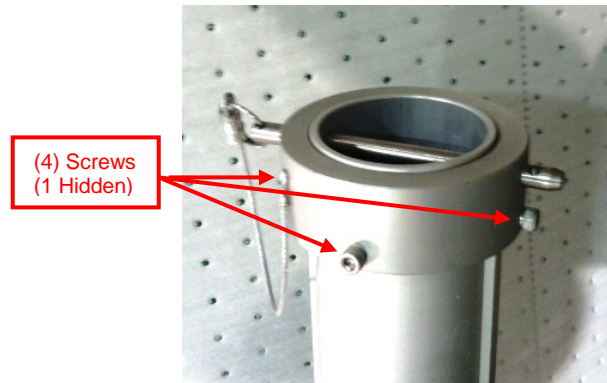

Figure 6 Tighten Bolts on Heavy-duty Tube Stop
8. Using an Allen wrench, tighten the four bolts on the heavy-duty tube stop to the top tube (Figure 6).